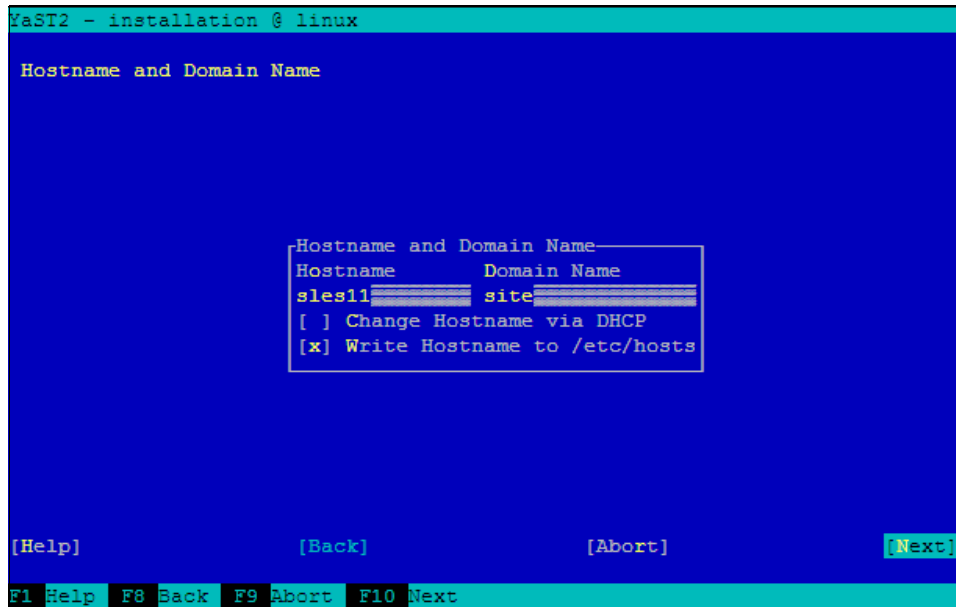

Figure 9-27 Hostname and Domain Name
20. Provide the hostname and the domain. Press **[Next]** to confirm. See Figure 9-27 on page 387.